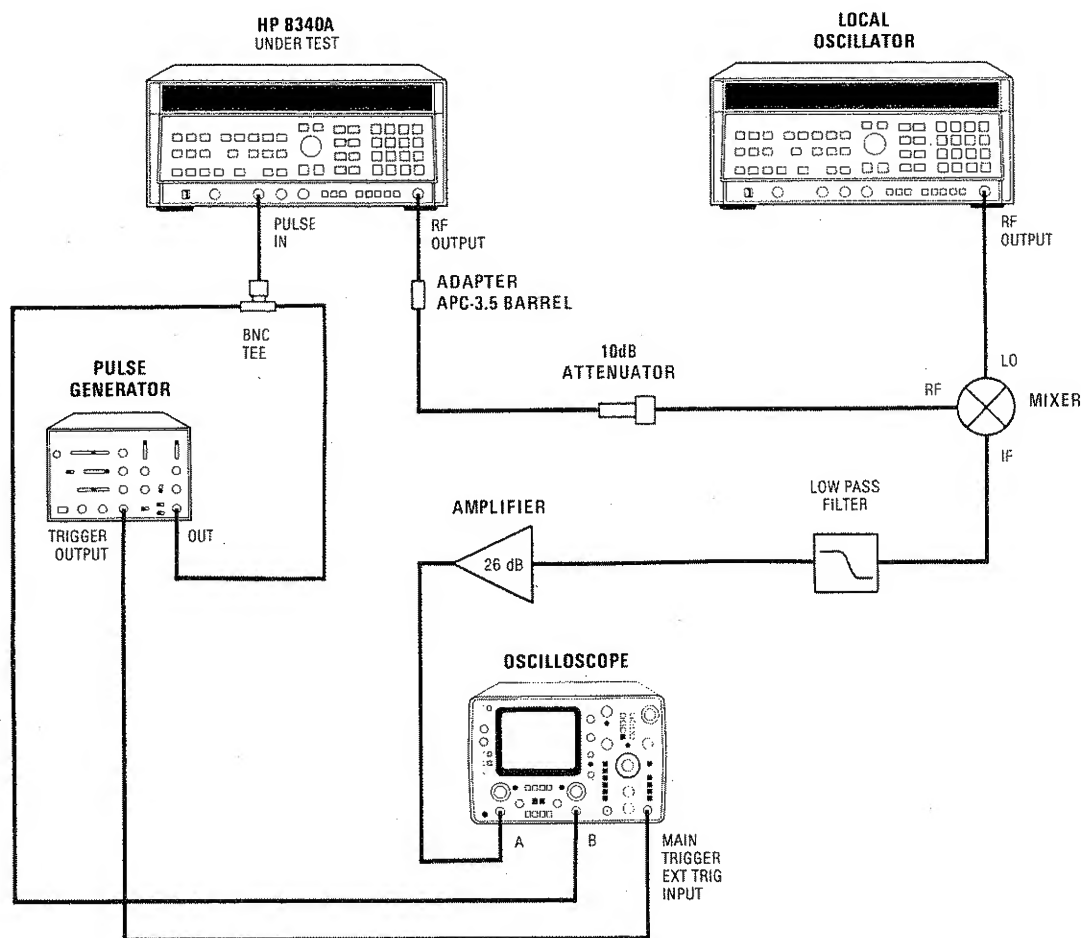

Figure 4-13. Pulse Modulation Rise and Fall Time Test Setup
1. Connect equipment as shown in Figure 4-13. Connect the mixer directly to the local oscillator RF output to obtain maximum LO drive to the mixer. Connect the BNC tee directly to the 8340A PULSE IN connector. Allow at least 30 minutes warm up time.